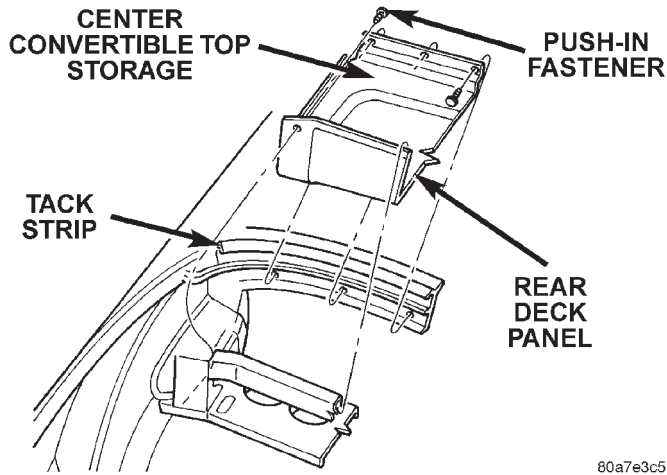

Fig. 70 Center Convertible Top Storage
(1) Raise and secure convertible top.
(2) Remove tack strip trim panel as necessary.
(3) Remove right and left convertible top storage area sections.
(4) Remove push-in fasteners holding center convertible top storage section to rear of storage area (Fig. 70).
(5) Remove push in fasteners holding center and side storage areas below seat belt bezel.
(6) Pull rear of center storage area upward and disengage front of center storage area from beauty bar.
(7) Separate center storage area from vehicle.